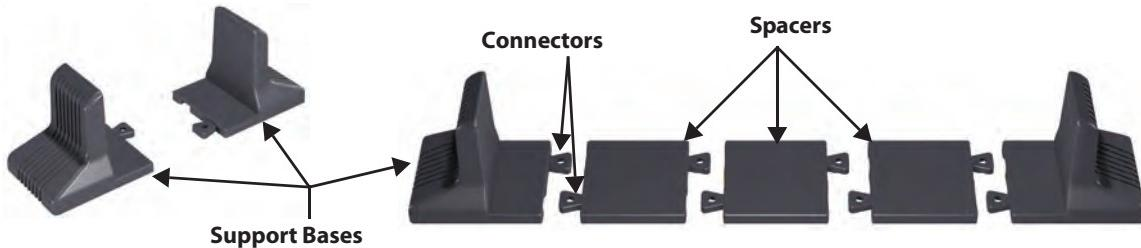

Figure 4: *Support bases*
1. Take out support bases from the accessories (see Figure 4).
3. Connect the spacers and the support bases as shown in Figure 4. Each S4K2U-5C needs two assembled support bases, one in the front and one in the rear.